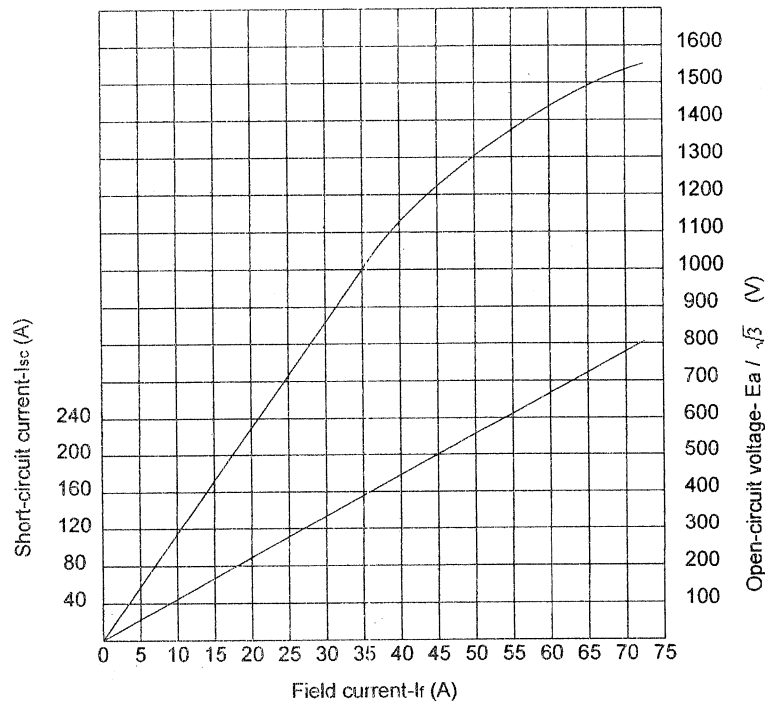

Figure Q6: Open-circuit and short-circuit characteristics of a synchronous machine
- b. The open-circuit and short-circuit characteristics of 60 Hz, 2300 V (line to line), Y-connected, 100 kVA, 1800 rpm, 3-phase synchronous generator are given in figure Q6.